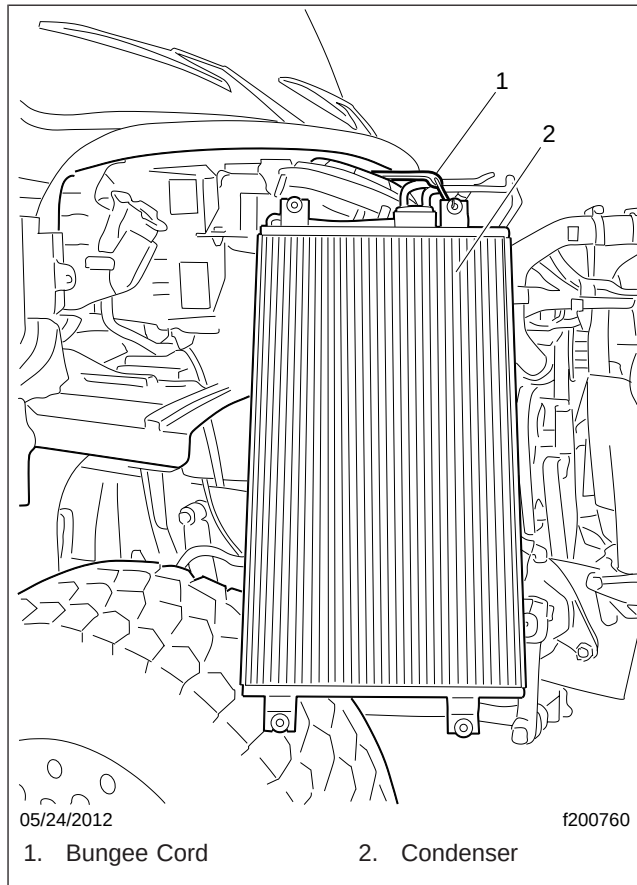

Fig. 9, Securing the A/C Condenser
- 13.4 Carefully move the condenser around and set it on right front tire. Secure it as needed. See Fig. 9.